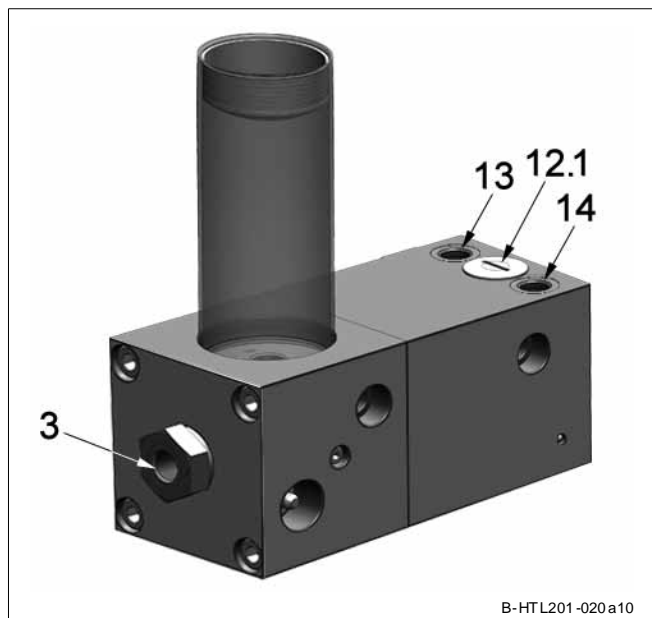

Fig. 2-1 Hydraulic oil connections of the lubrication pump HTL 201
- ➔ Remove closure plug 12.1 (Fig. 2-1) of the throttle 9.
To adjust the throttle, stop the hydraulic system operation. The throttle may still be pressurized for a long time after switching off the hydraulic unit. Always check first whether the pressure connection 14 (P, fig. 2-1) is depressurized.